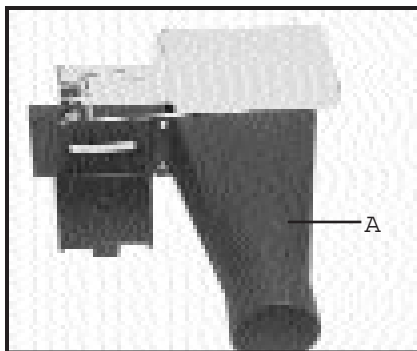

Fig. 8
6. Position the rear cutter guard (A) Fig. 8, to the right fence bracket and top cutter guard assembly. Secure with two #10-32 x $3\frac{3}{8}$ " screws.